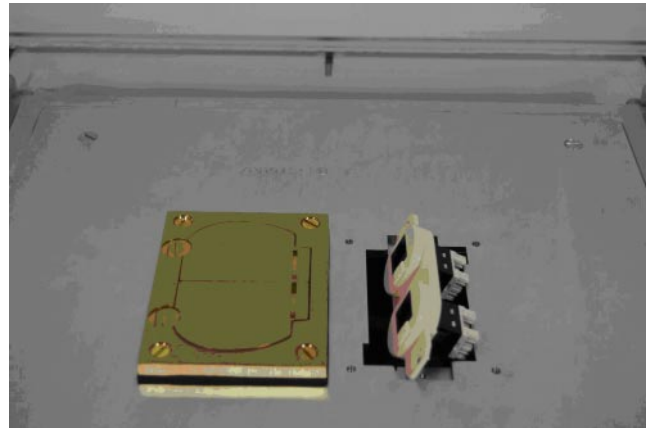

Figure 6
1. Remove the break-away tabs at both ends of the duplex mounting strap as shown in Figure 6.